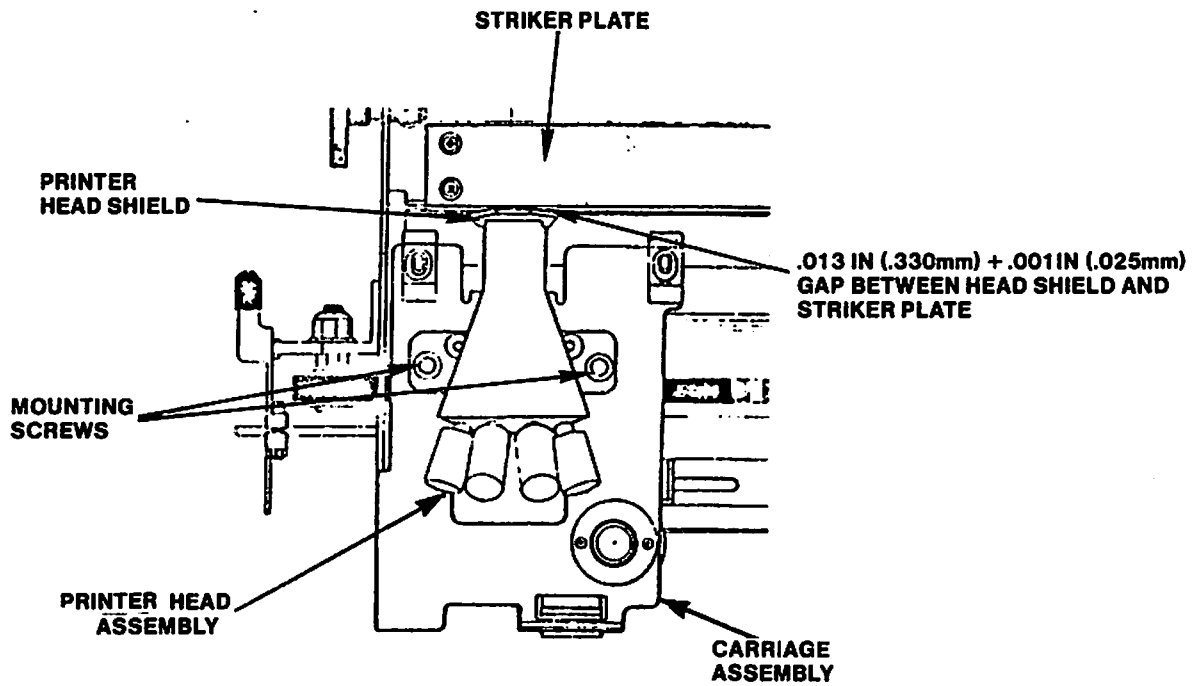

FIGURE 1
4. Remove existing print head assembly from carriage assembly by unplugging fingerboard from connector and removing the two mounting screws holding printer head assembly to carriage assembly (see Figure 1). Save the two mounting screws for installing the new printer head.
6. Install new printer head assembly on carriage assembly by plugging fingerboard into connector and attaching it to carriage assembly. Use the two mounting screws removed from the existing printer head (see Figure 1).